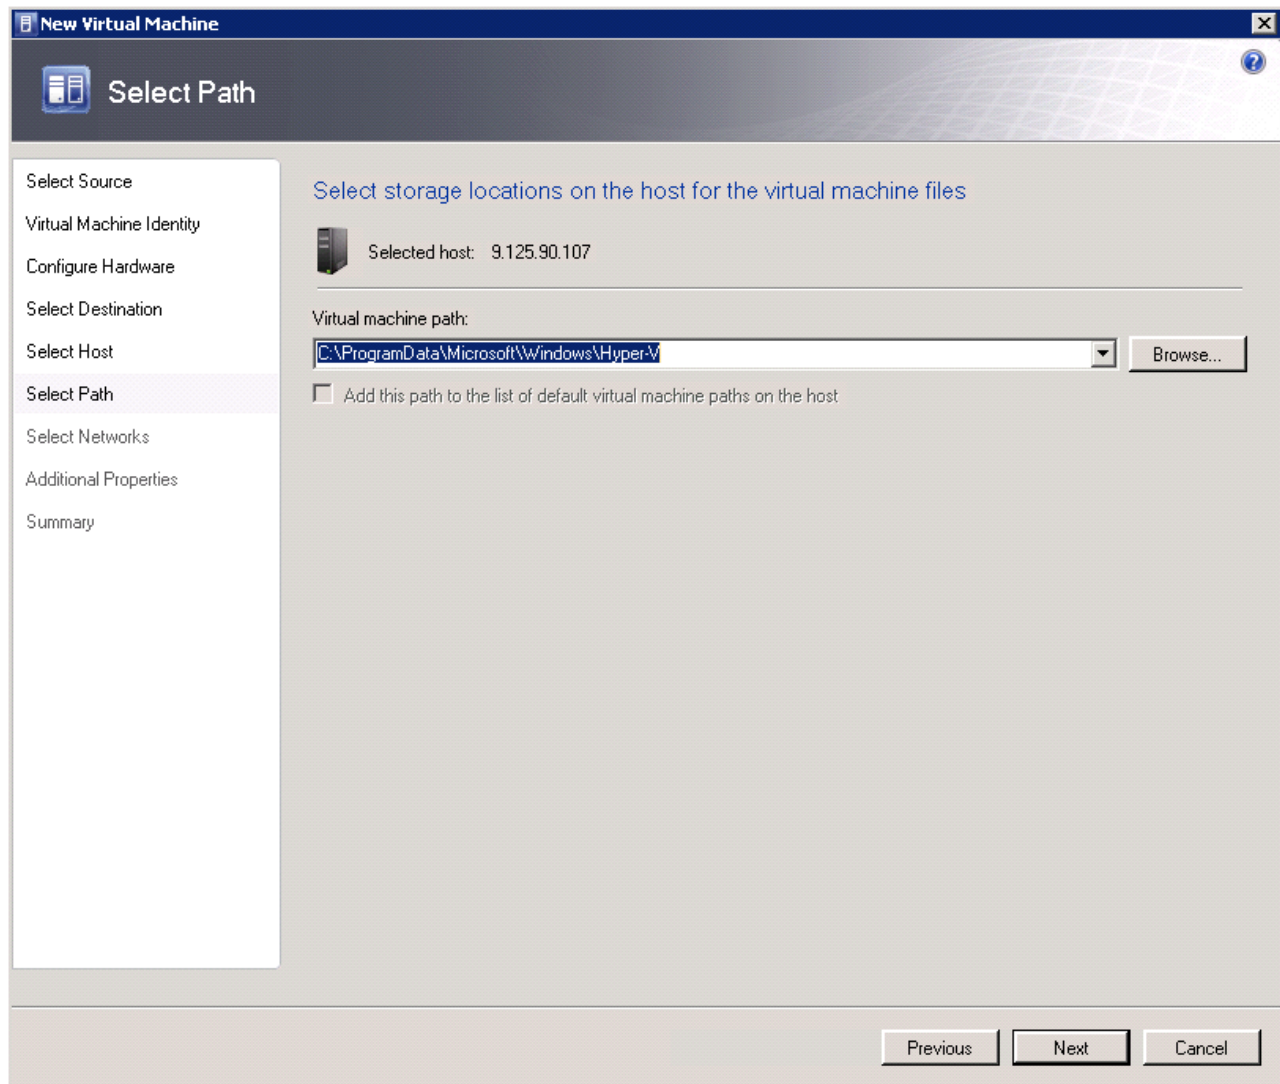

Figure 3-18 New Virtual Machine wizard: Select Path
14. In the Select Path window, enter the storage location for the virtual machine files, as shown in Figure 3-18. Click **Next**.